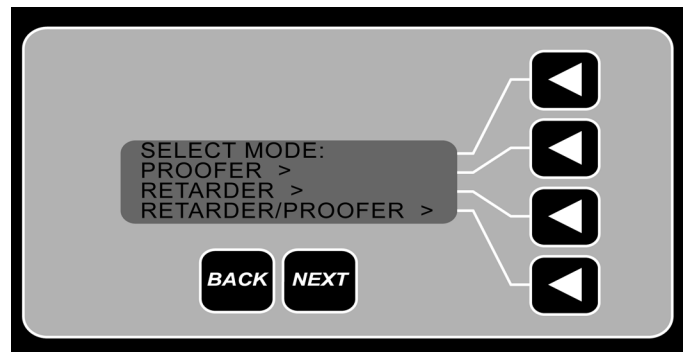

Fig. 2
The LCD panel displays three options after the ON/OFF button is pressed (Fig. 2).
- Press the "PROOFER" operation arrow button (Fig. 2).
- Press the "RETARDER" operation arrow button (Fig. 2).